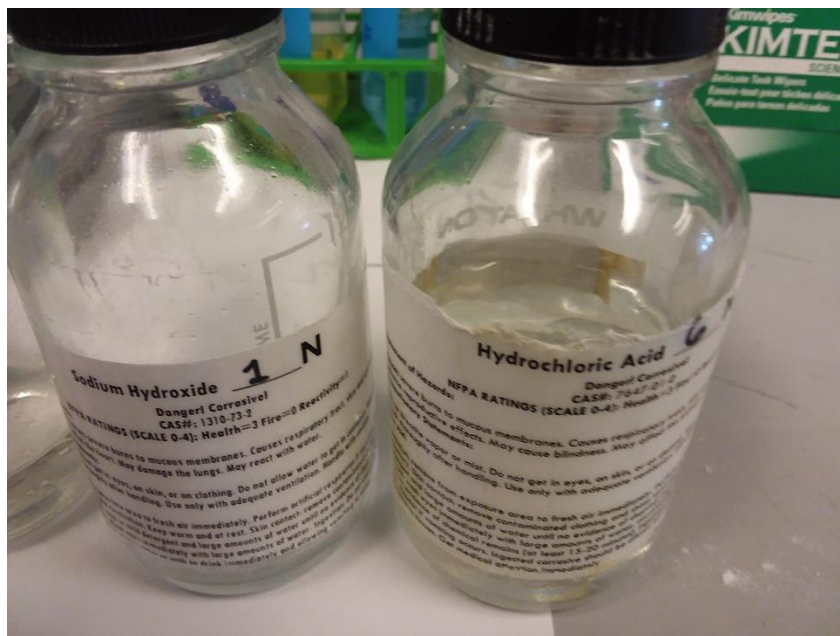

FIGURE 3
3.3.3 Solutions used to raise or lower pH. (See figure 3)